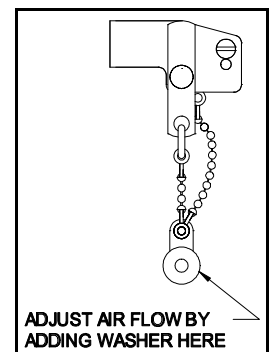

Figure 4
2. Attach weights to the pendent on weight lever assembly using the supplied #5 screw and nut. (See Figure 4)